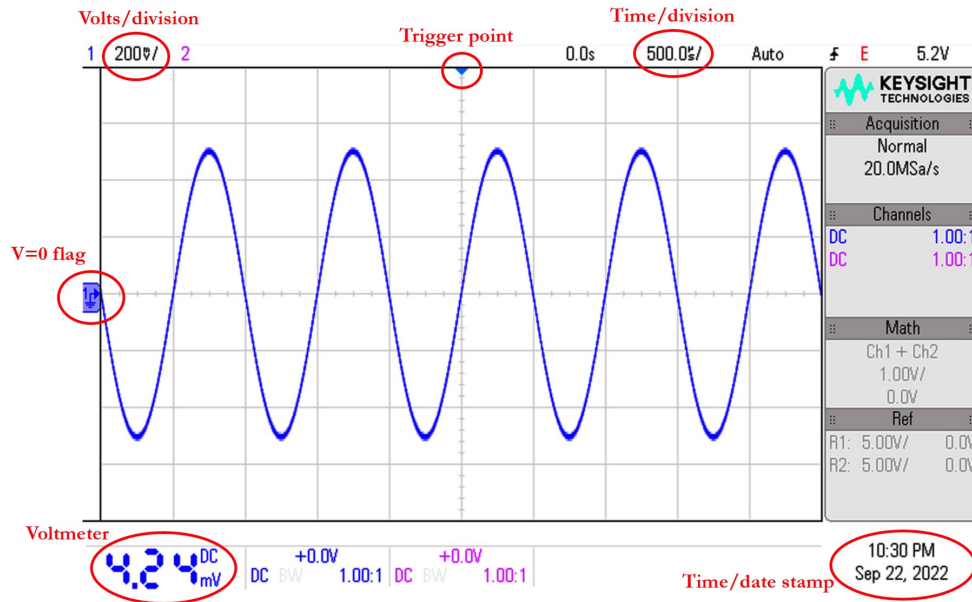

Figure 3. A typical screenshot of the Keysight EDUX1052A oscilloscope. Several important settings are circled in red, as they appear on the live 'scope screen.
- Turn the large *Horizontal scale* knob and see what it does. At the top of the 'scope screen you will see something like “100 μs/” (see Figure 3), telling you that the oscilloscope is plotting the waveform at 100 microseconds per division. One division is about one centimeter on the oscilloscope screen, delineated by vertical lines, with a total of 10 divisions being displayed. As you turn the Horizontal knob, note that the 'scope uses a 1-2-5-10 sequence for the time/division. This is fairly standard for a logarithmic sequence, giving three knob clicks per decade.
- Before changing any settings, press the *Quick Action* button on the 'scope and a screenshot should appear on one of the Ph3 printers. (If *Quick Action* does not print, try pressing *Save/Recall* and then *Print*. If that also does not work, ask for help.) Print a copy for each lab partner, so each of you can tape it into their own lab notebook (there is a paper cutter near the printer, and tape all around the Ph3 lab). Again, be sure to add some kind of caption and/or explanation with your screenshot. Explain (briefly) that this exercise is about measuring the signal frequency and amplitude using the *Measure* feature. Note that the measurements appear in the screenshot, so this is a convenient way to record both the 'scope settings (See Figure 3) and a set of signal measurements.